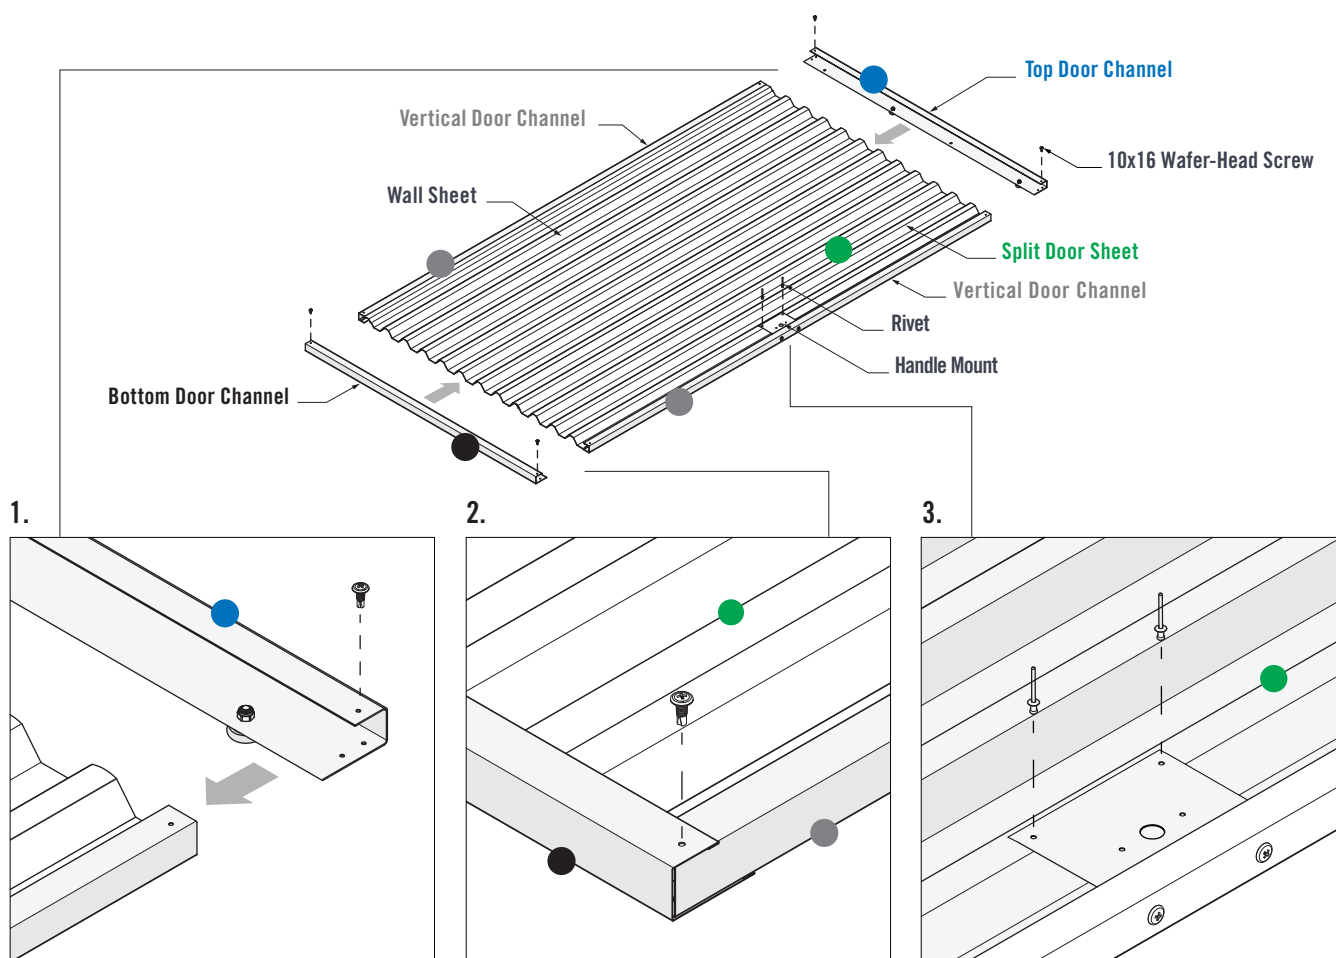

FIGURE 5.5
1. Fit the Vertical Door Channels over the side of the door sheets, then fit the **Top** and **Bottom** Door Channels over the door sheet ends. Ensure the lip of the Top and Bottom Door Channels fit over the Vertical Door Channels (Figure 5.5).
2. Fasten one 10x16 Wafer-Head Screw through the pilot holes in the corner of each **Top** & **Bottom** Channel and into the Vertical Door Channels (Figure 5.5).
3. Drill two 3.5mm holes through the Handle Mount and into the **Split Door Sheet**. Install two coloured Rivets (Figure 5.5).